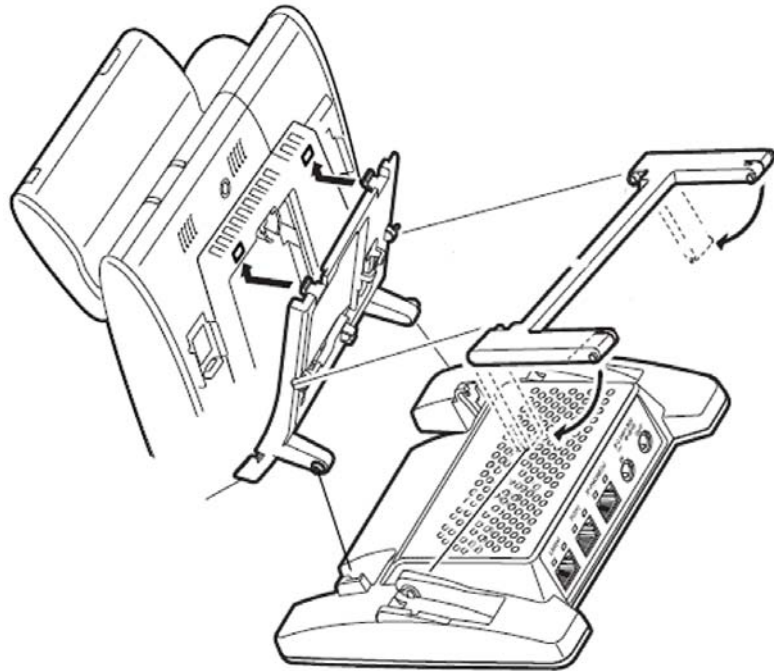

Figure 6-55 Secure GBA-L UNIT Base to Bracket Assembly
12. Secure base of GBA-L UNIT to bracket assembly (refer to Figure 6-55 Secure GBA-L UNIT Base to Bracket Assembly).